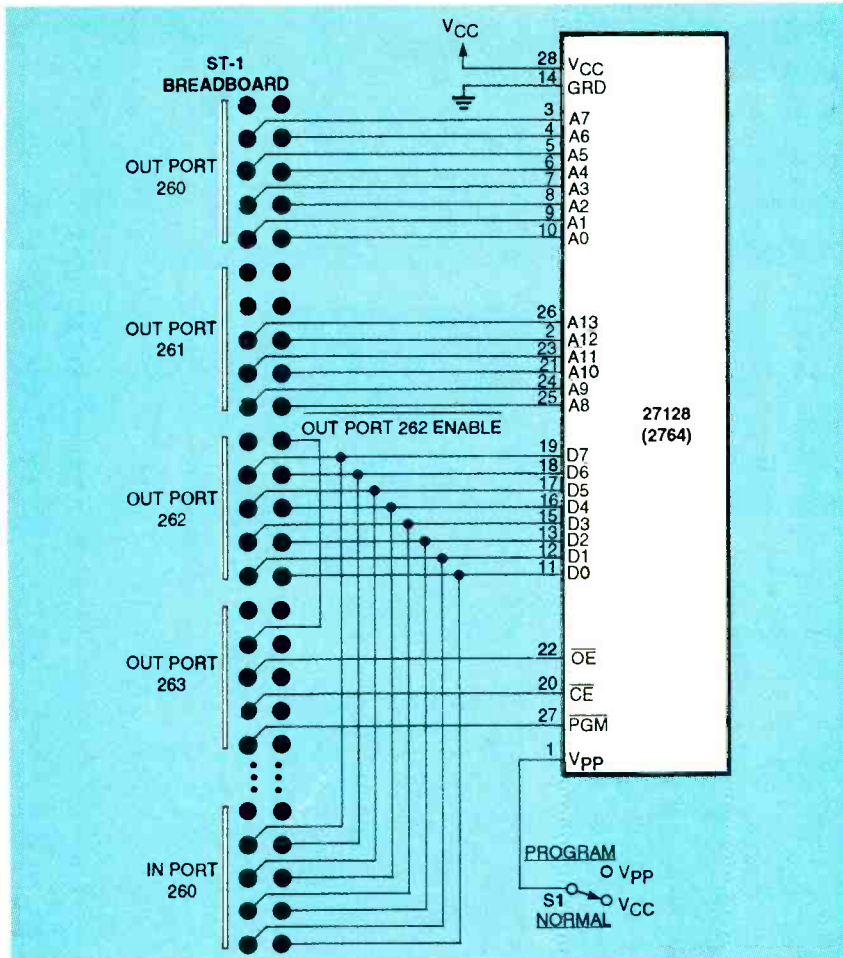

FIG. 1—27128 EPROM HOOKUP to the ST-1 breadboard appears here. The same hookup works for a 2764.
First set up the hardware. Figure 1 shows the hookup between the ST-1 breadboard and the 27128 28-pin EPROM. The port numbers shown in the figure and in the program listings represent the decimal values of the default base I/O port (260) provided by the breadboard. If the board is not set to the default address, substitute the values in all diagrams and software. (Part 1 of this series detailed base I/O port selection.)
scribed momentarily. For now, note that port 263 drives the EPROM's output enable ( $\overline{OE}$ , pin 22), chip enable ( $\overline{CE}$ , pin 20), and program pulse ( $\overline{PGM}$ , pin 27), as shown in Fig. 1. Port 263 also controls port 262's enable line. The odd-numbered bits of 263 are configured as follows: D1 ( $\overline{PGM}$ ), D3 ( $\overline{CE}$ ), D5 ( $\overline{OE}$ ), and D7 (PORT 262 ENABLE). All four signals are active-low. Bits D0, D2, D4, and D6 are not used, so they can be set to any arbitrary value. You might want to make them the complements of D1, D3, D5, and D7. Then, if extra hardware is ever needed, both the active signals and their complements will be available.